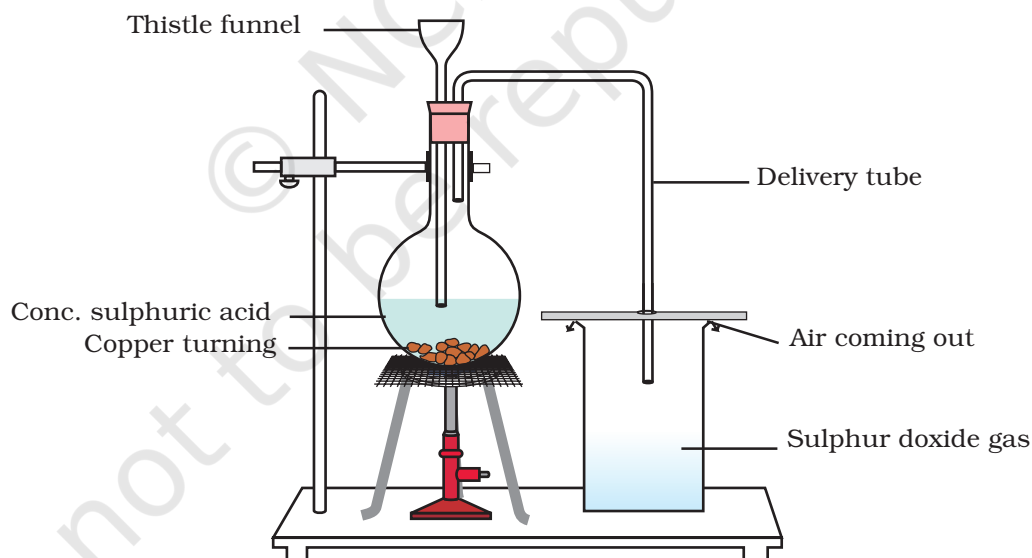

Fig. 14.1 : Preparation of sulphur dioxide gas
1. Place few pieces of copper turnings (about 5 g) in a round bottom flask and arrange the apparatus as shown in Fig. 14.1.